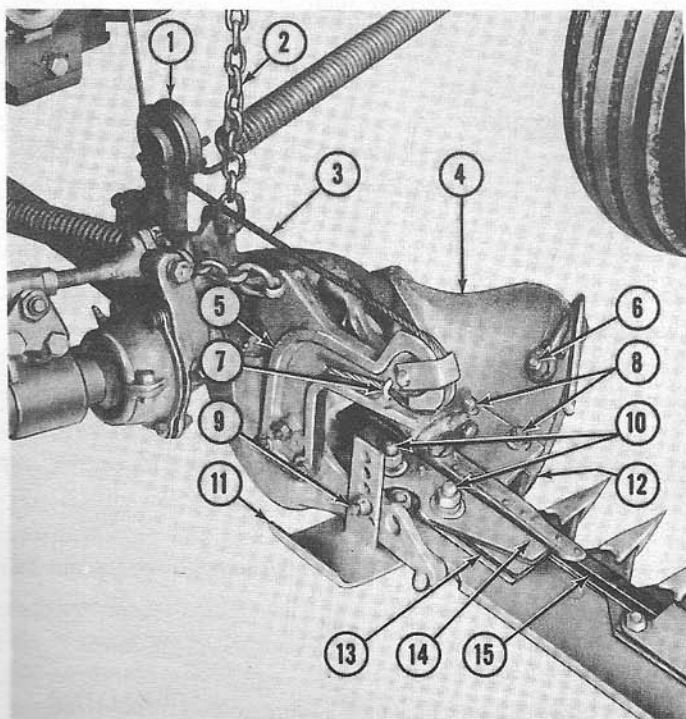

Figure 4
Guide Plates: To avoid slap or vertical play in the knife, remove the nuts (8) and (10), Figure 4, from the guide plates (12) and (14). Remove shims from under each guide plate until the knife head has no more than 1/32" vertical play and the knife slides freely. When replacing the rear guide plate (14), position the wear plate (13) so that it almost touches the back of the knife head (15). This will eliminate side play at the knife head.
To adjust the cutter bar at the inner shoe, remove the bolt (9), Figure 4, raise or lower the shoe as desired on the shoe sole (11), and secure with the lock washer and nut. For best results, be sure the cutter bar is set to a uniform height at both the inner and outer shoes.